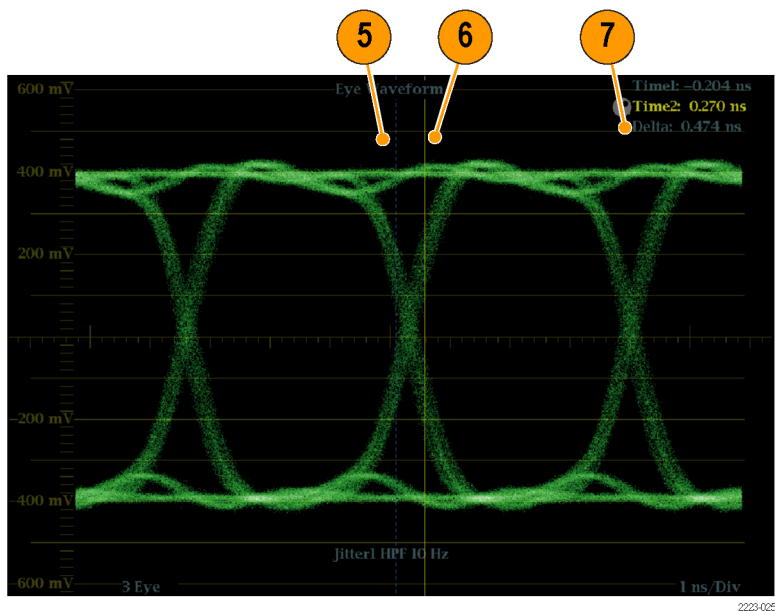

Figure 53: Using cursors to measure jitter
5. Position the first timing cursor at the left edge of the zero-crossing point of the Eye waveform. (See Figure 53.)
6. Position the second timing cursor at the right edge of the zero-crossing point of the Eye waveform. (See Figure 53.)
7. Check that the Delta readout is less than the following: (See Figure 53.)